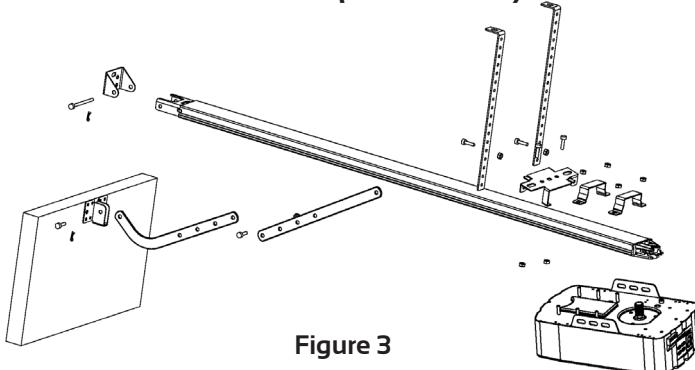
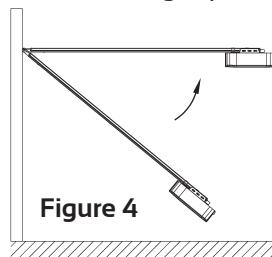
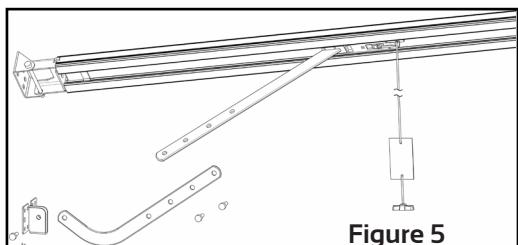

Figure 3
Figure 4
Figure 5
ÉTAPE 1 (Fig.3)
ÉTAPE 2 (Fig.3)
ÉTAPE 3 (Fig.3, Fig.4)
ÉTAPE 4 (Fig.3, Fig.5)